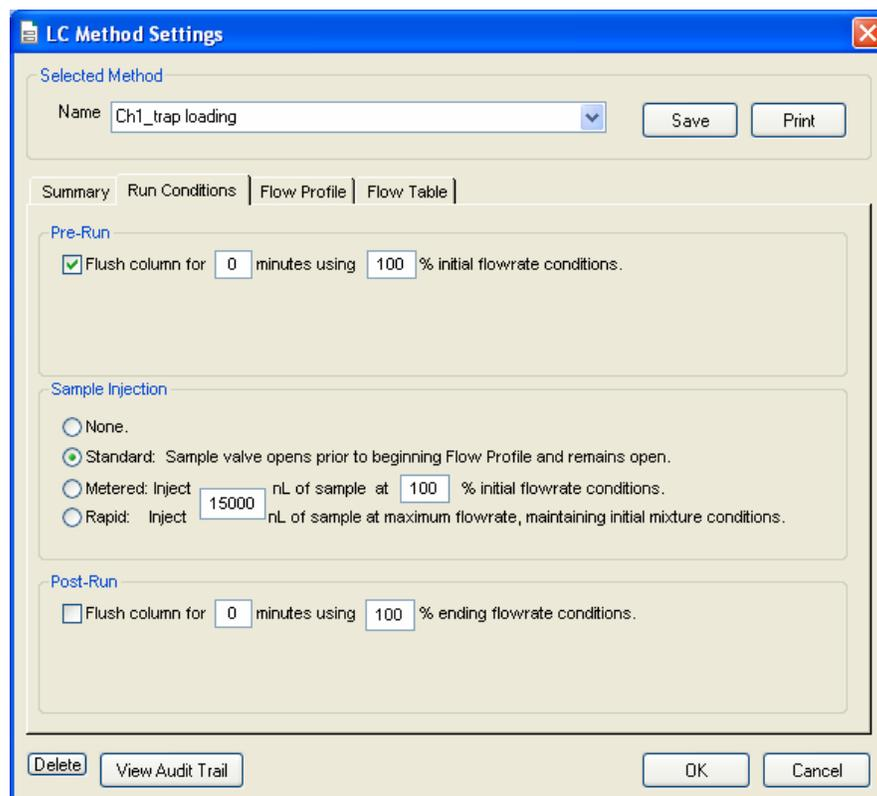

Figure 5-9. LC Method Editor – Run Conditions Tab
- step 4* Click on the **Run Conditions** tab of the **LC Method Editor** window to obtain the Run Conditions tab (Figure 5-9).